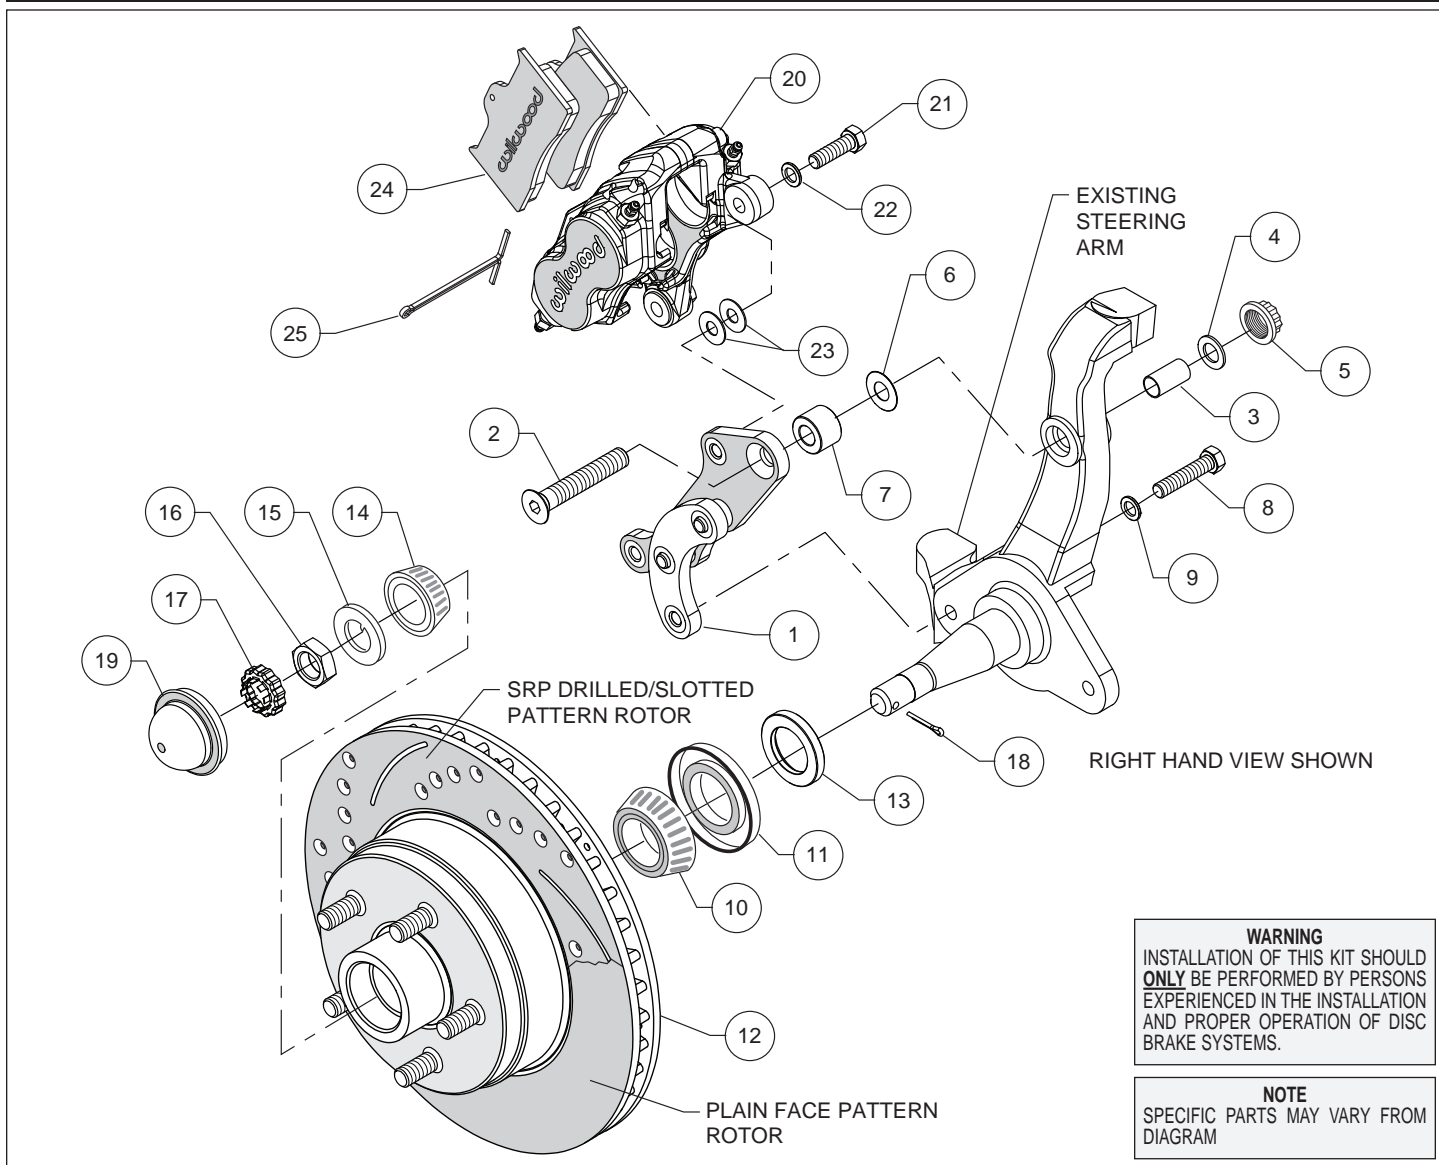
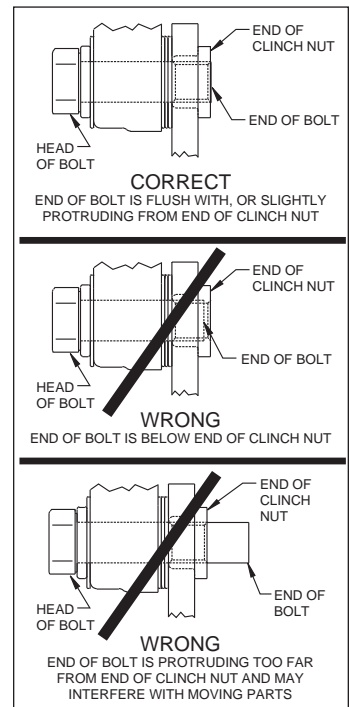

Figure 1. Typical Installation Configuration
Figure 3. Clinch Nut Engagement Diagram
Assembly Instructions (numbers in parenthesis refer to the parts list and Figure 1 on the preceding pages): **CAUTION:** All mounting bolts must fully engage clinch nuts. Be sure to check that all bolts are either flush or protruding through flanged side of clinch nut after shimming, Figure 3.
- The caliper bracket (1) should initially be installed with clean, dry threads on the mounting bolts. The bracket has been assembled at the factory for alignment purposes. Loosen the two bolts that secure the brackets together so that the bolts are hand tight only. This will enable the bracket assembly to be adjusted to accommodate various spindle tolerances during assembly. Insert sleeve (3) into top mounting hole on the spindle, Figure 1. Orient the bracket as shown in Figure 1 and install using bolt (2), washer (4), locknut (5), in the upper hole. Place a .711" thick spacer (7) positioned between the bracket and spindle, as shown in Figure 1 and Photo 1. Initially use one .032" thick shim (6) on the upper bolt between the bracket and spindle, Figure 1. Install bolt (8) and washer (9) in the lower hole, Figure 1. Temporarily tighten the mounting bolts, followed by the two bracket-to-bracket bolts. **NOTE:** The bracket must fit squarely against the mounting points on the spindle. Inspect for interference from casting irregularities, machining ridges, burrs, etc. Later, after the bracket alignment has been checked, the bolts will be secured using red *Loctite*® 271.
- Pack the large inner bearing cone (10) with high temperature disc brake bearing grease (available from your local auto parts store) and install into the backside of the hub (12), Photo 2.
- Install the grease seal (11) by pressing into the backside of the hub (12), flush with the end of the hub.
- Slide the hub/rotor spindle spacer (13) onto the spindle. Ensure the chamfered I.D. faces inward, Photo 3.
- Temporarily install the hub/rotor (12) onto the spindle. Check that the caliper mounting bracket (1) is aligned parallel to the rotor, Photo 4. If not, adjust by adding or subtracting shims (6) on the upper bolt between spacer and spindle, Figure 1. Once the bracket alignment is correct, torque the upper bolt locknut to 65 ft-lb. Remove the lower bolt, apply red *Loctite*® 271 to the threads, and torque to 40 ft-lb.
- Remove hub/rotor and pack the small outer bearing cone (14) with high temperature disc brake bearing grease and install into the front side of the hub (12). Slide the hub/rotor onto the spindle. Secure using spindle washer (15), and spindle nut (16). Adjust bearings per OEM specifications. Install spindle nut retainer (17) and a new cotter pin (18), Photo 5.
- Press the dust cap (19) into the hub (12), Photo 6.
- NOTE:** Please reference the caution statement at the beginning of the assembly instructions. Mount the caliper (20) onto the caliper mounting bracket (1) using bolts (21) and washers (22), as shown in Figure 1. Initially place two .035" thick shims (23) on each bolt between the caliper and the bracket, Photo 7. Temporarily tighten the mounting bolts and view the rotor (12) through the top opening of the caliper. The rotor should be centered in the caliper, Photo 8. If not, adjust by adding or subtracting shims between the bracket and the caliper. Always use the same amount of shims on each of the two mounting bolts. **NOTE:** The end of each bolt must be flush with or slightly protruding from the head of the clinch nut, as shown in Figure 3. If necessary place spare shims between washer (22) and caliper mounting ear to achieve the proper clinch nut engagement. Once the caliper alignment and clinch nut engagement are correct, remove the bolts one at a time, apply red *Loctite*® 271 to the threads, and torque to 40 ft-lb.
- Install the disc brake pads (24) into the caliper, with the friction material facing the rotor (12), Photo 9. Secure in place using cotter pin (25), Photo 10.